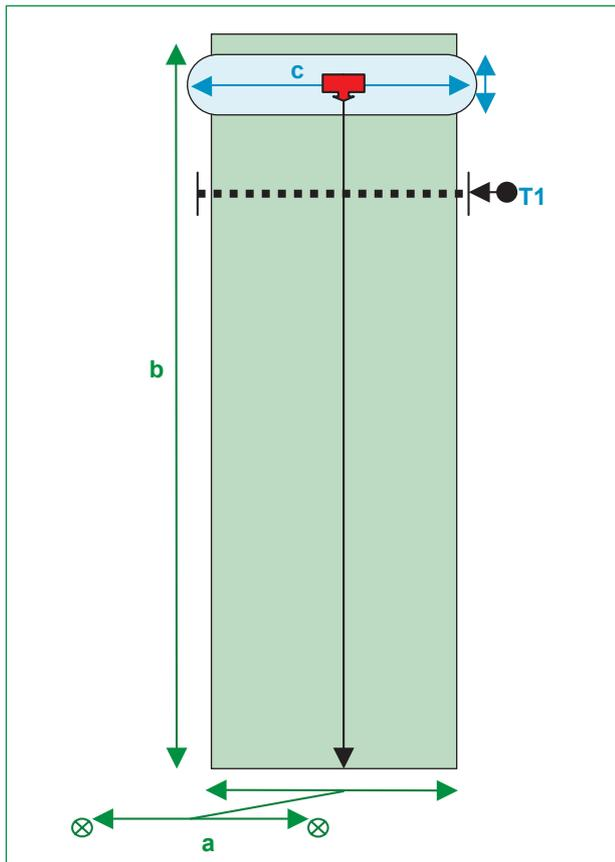

Figure 2.1. Layout of calibration test for travelling irrigators.
1. Place markers half way between the test hydrant and the hydrant to the left (See Figure 2.1)
2. Repeat on the right hand side. The space between the markers is the Run Width (a in Figure 2.1)
3. Mark the extent of obvious wetting when the irrigator runs. This is the “Wetted Width” (c in Figure 2.1)
9. Measure the Run Length (b in Figure 2.1)
10. Measure the Run Width (often hydrant positions) (a in Figure 2.1)